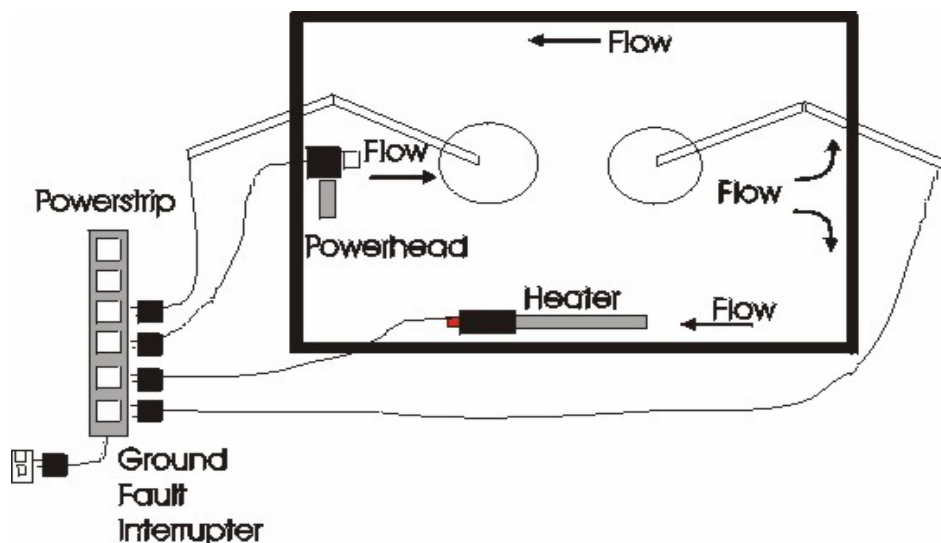

Fig. 3 - Placement of powerhead
5. Using the suction cups, attach the power head along the short side of the growth chamber, causing the flow to be directed down the center of the growth chamber (Fig. 3).